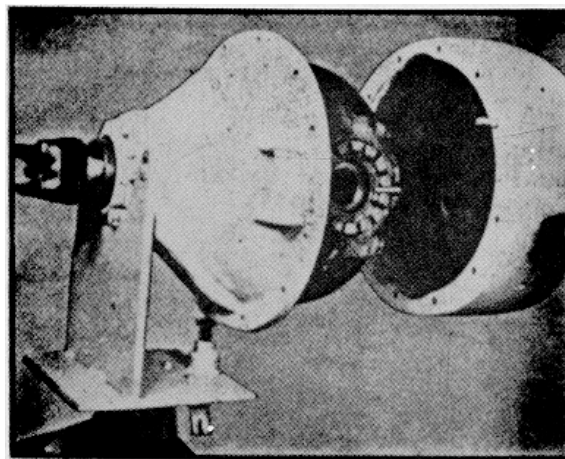

Fig. 43
6. Roll differential carrier away from the axle. (See fig. 43).
3. Position the differential carrier in the axle housing with a suitable roller jack, (See fig. 43), picking up two locating studs.
4. Install differential carrier capscrews and stud nuts. Tighten to the correct torque. Fig. 43